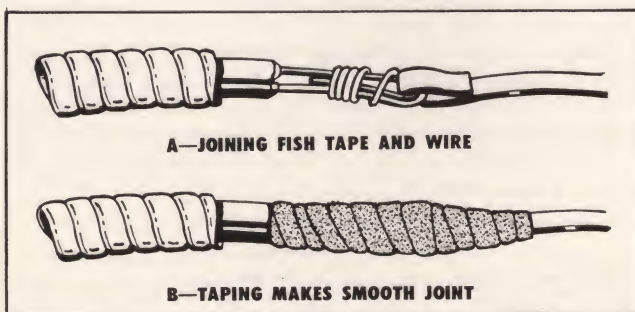
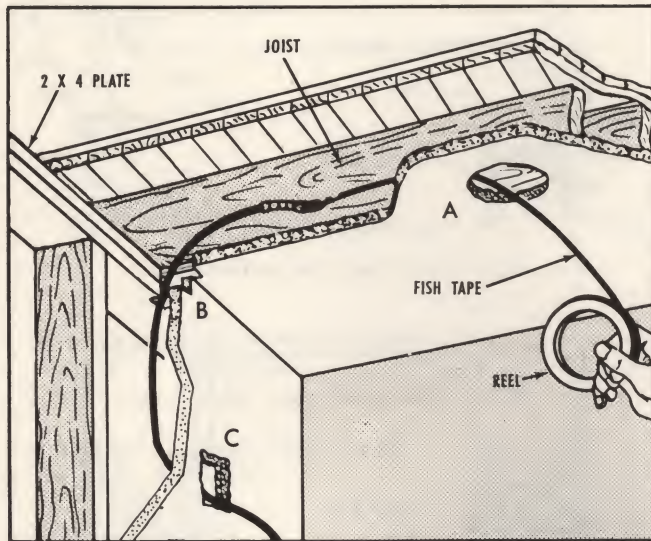

FIG. 43—CONNECTING FISH TAPE AND WIRE
FIG. 57—"OLD WORK" CEILING TO WALL INSTALLATION
**INSERTING WIRES INTO CONDUIT.** Pull wires through conduit by means of a fish tape. (See Fig. 42.) This is a special stiff, but flexible, flat wire which can be pushed around corners easily without buckling. Fig. 43 shows how fish tape is joined to wires for easier passage through conduit. In a 2-wire circuit use one white insulated wire for the "neutral" or ground and one black for the "hot" wire. In a 3-wire circuit include a white, a black and a red wire. Where the run is short and has only one or two gradual bends, insert wires at one end of conduit and push them through to the next outlet. *All wires that are to be in any one conduit should be pulled through at the same time.* Allow 8-inches of wire at each box for making connections. Test wiring system as outlined on Page 38. Grounding provisions are explained on Page 31.
**CEILING TO WALL CABLE INSTALLATION.** Fig. 57 illustrates a typical problem of running cable from an outlet in ceiling at A around the corner through B to an opening in wall at C for a toggle switch. At B, where wall meets ceiling, there is usually a double 2 x 4 wooden plate that blocks passage of cable. At this point the usual procedure is to make a temporary opening in the plaster. An opening is then notched in the 2 x 4's with a chisel to provide a channel for fishing the cable through. After wiring is installed, the opening can be patched with a ready-mix plaster. See Page 21 for instructions on preparing an opening for a wall switch.
**HOW TO FISH WIRES.** After preparing necessary openings, draw the cable through by using fish wire, as shown in Fig. 57. Insert a continuous length of fish wire at A, run to opening at B and push down to side wall opening at C. Then hook and tape cable to the fish wire (Fig. 43) and pull through from opposite end until cable reaches ceiling opening. Allow about 8 inches of cable to project at points A and C for connections.